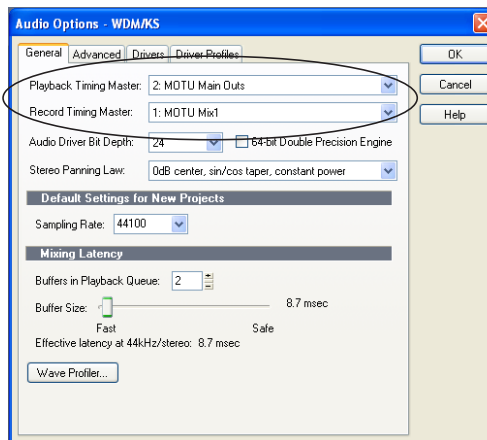

Figure 8-4: Make sure you have chosen a 8pre input and output for the playback and recording timing master settings.
- 2 Choose a 8pre input and output for recording and playback timing as shown below in Figure 8-4. It doesn't matter which input or output you choose.